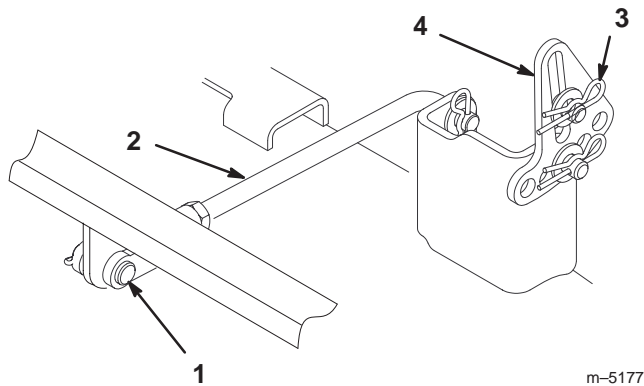

Figure 47
6. Remove the hairpin cotter and clevis pin from the rear trunnion rod (Fig. 47) on each side of the mower.
7. Remove the hairpin cotter and washer at the mower leveling brackets (Fig. 47) on each side of the mower. Note which hole the leveling bracket is mounted in for future installation. Slide the brackets off of the mounting pin.
6. Attach the rear trunnion rod to the tractor with the clevis pin and hairpin cotter (Fig. 47) on each side of the mower.
7. Slide the leveling brackets onto the mounting pins and secure them with the washers and hairpin cotters (Fig. 47).